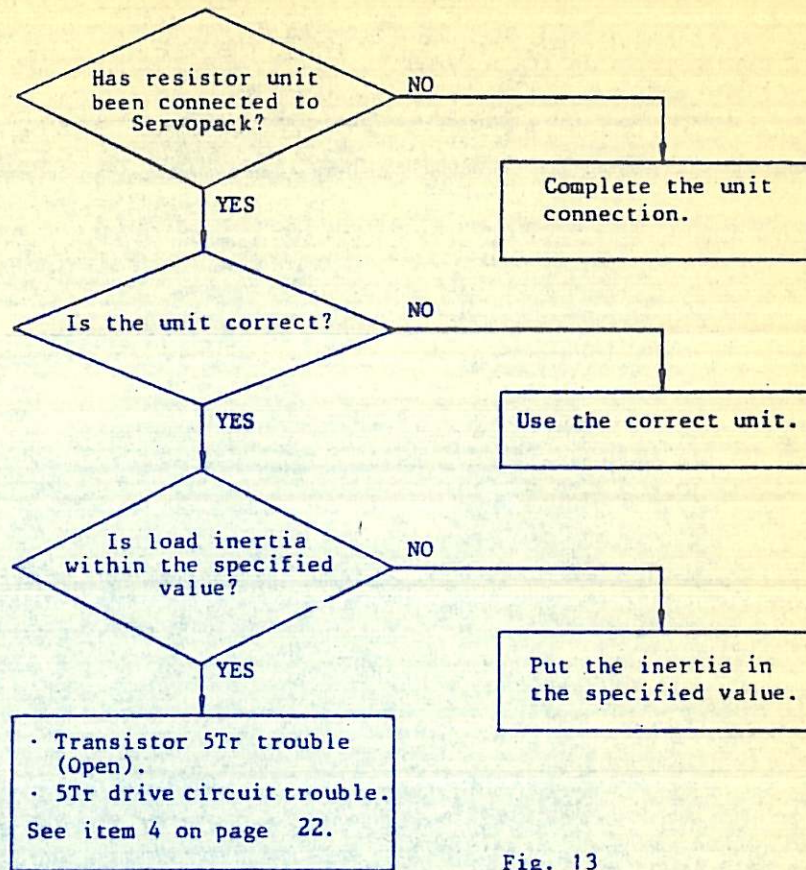

Fig. 13
- 3LED goes on when the motor stops. See Fig. 13.